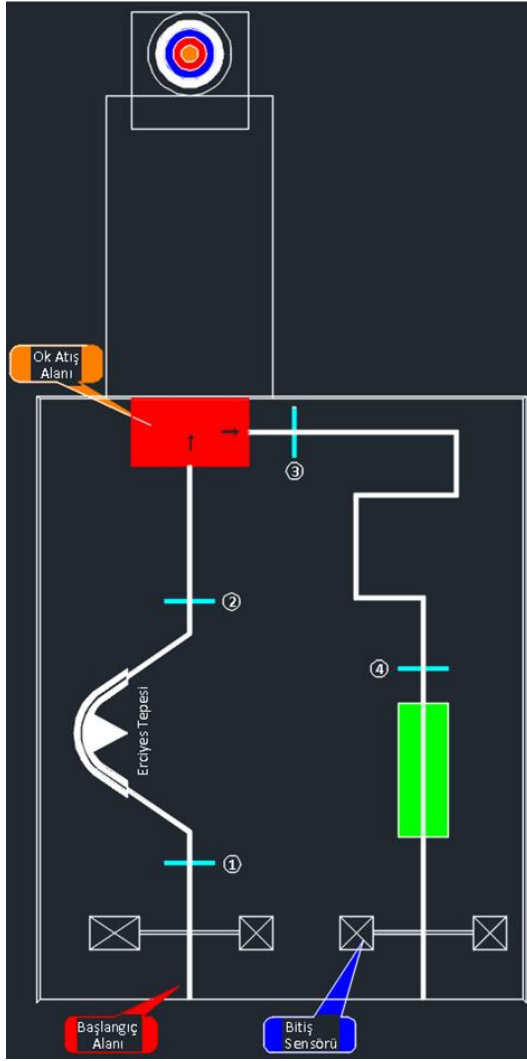

Figure 1a - Qualifying Track (Track-A)
- In the elimination round, the robot will reach the exit gate by fulfilling the tasks of "Erciyes Hill", Red area and arrow shooting, 90-degree turn, bridge (green area) climbing, respectively after the exit (Figure 1a).